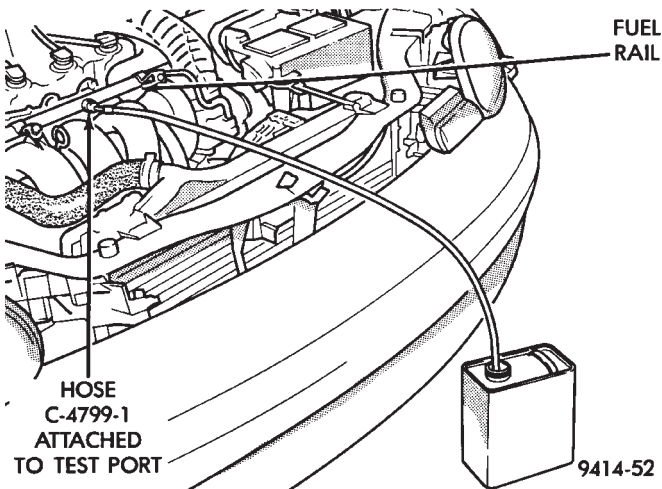

Fig. 9 Releasing Fuel Pressure
- (4) Place open end of fuel pressure release hose, Special Tool number C-4799-1, into an approved gasoline container. Connect other end of hose C-4799-1 to fuel pressure test port (Fig. 9). Fuel pressure will bleed off through the hose into the gasoline container. Fuel gauge C-4799-A contains hose C-4799-1.